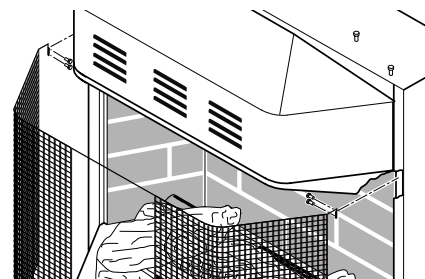
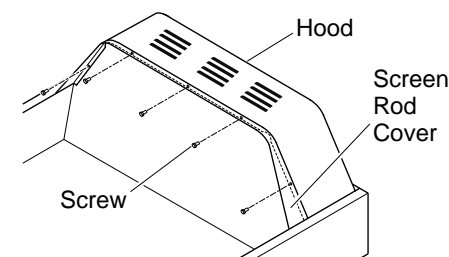
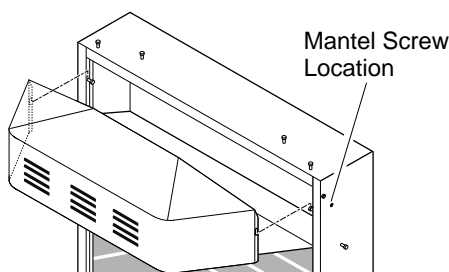

Figure 10 - Removing Screen
Figure 11 - Removing Hood Screws
Figure 12 - Removing Hood
2. Remove screen from fireplace by removing screws in each end of screen rod (see Figure 10). Hold screen rod cover while removing five hex head screws underneath hood (see Figure 11). Carefully lift and pull out hood (see Figure 12).
- Attach remaining two 3" wood screws from hardware pack through openings inside of fireplace sides into the mantel. See Figure 12, page 9, for screw hole location.